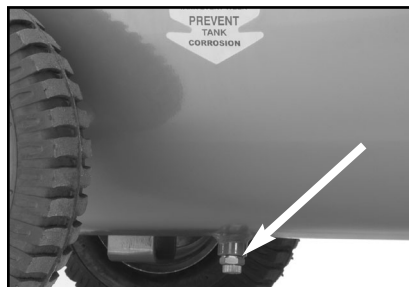

Figure 4. Drain valve location.
2. Close the drain valve, shown in **Figure 4**, so the tank can build up pressure.